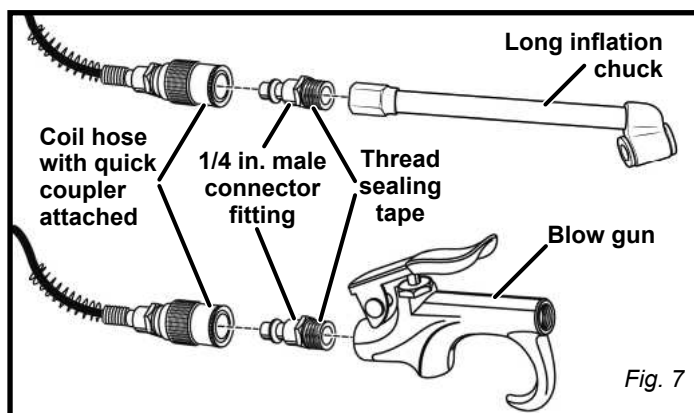

Fig. 7
- Apply thread sealing tape to male threaded end of the male connector fitting. Attach 1/4 in. NPT male connector fitting to accessory or tool you intend to use (see fig. 7).
- Connect the air powered tools to the air hose by inserting the male quick-connect plug to the quick-coupler at the end of the hose (see fig. 7).